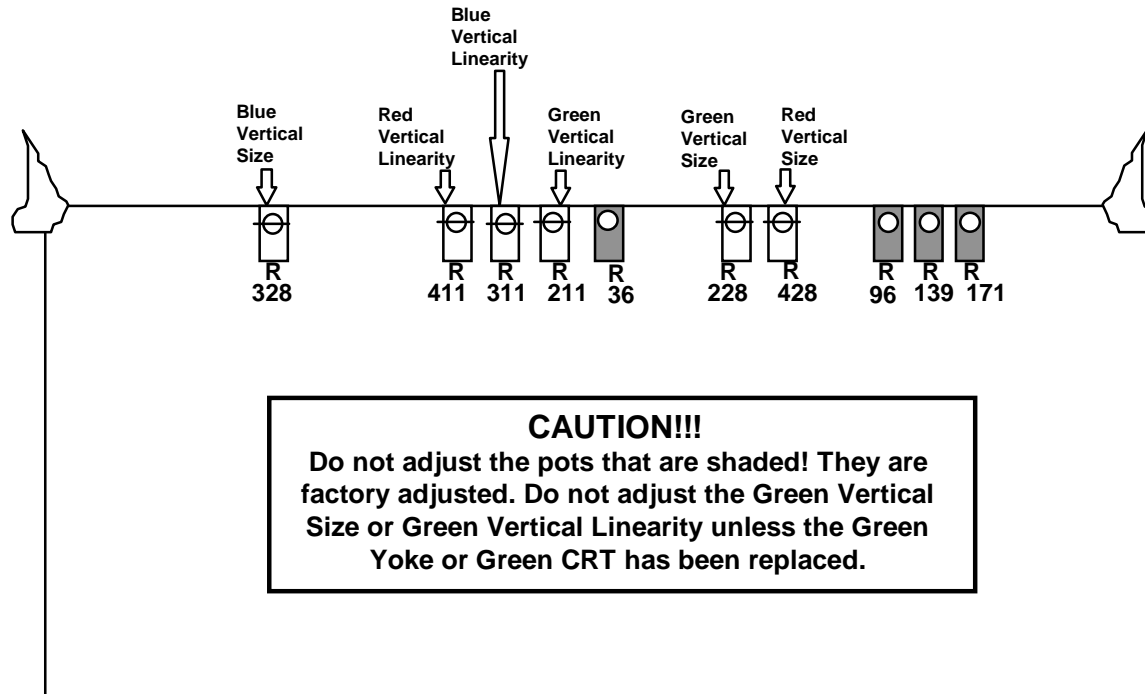

Figure 3-3 Vertical Size and Linearity Controls on the Vertical Deflection Board.
There are three (3) adjustment rods for each CRT making a total of nine (9). The rods are accessed through holes, covered by hole caps, in the base and fan casing at the rear of the projector (see Figure3-3).
Each CRT has three (3) focus rods; lower-left, lower-right and upper-left. The focus rods for each CRT work as follows (see Figures 3-3 and 3-4).
4. Remove the hole caps to gain access to the focus rods. For the Green CRT, use a 5mm nut driver to adjust the lower-left rod of the Green focus rods (see Figure 3-3). Have another person watch the upper-right corner of the screen for the sharpest focus as you adjust the rod. This focus rod is the CRT z-axis position and affects the overall focus. Observe the upper right corner because it is the pivot point for the other two focus rods.